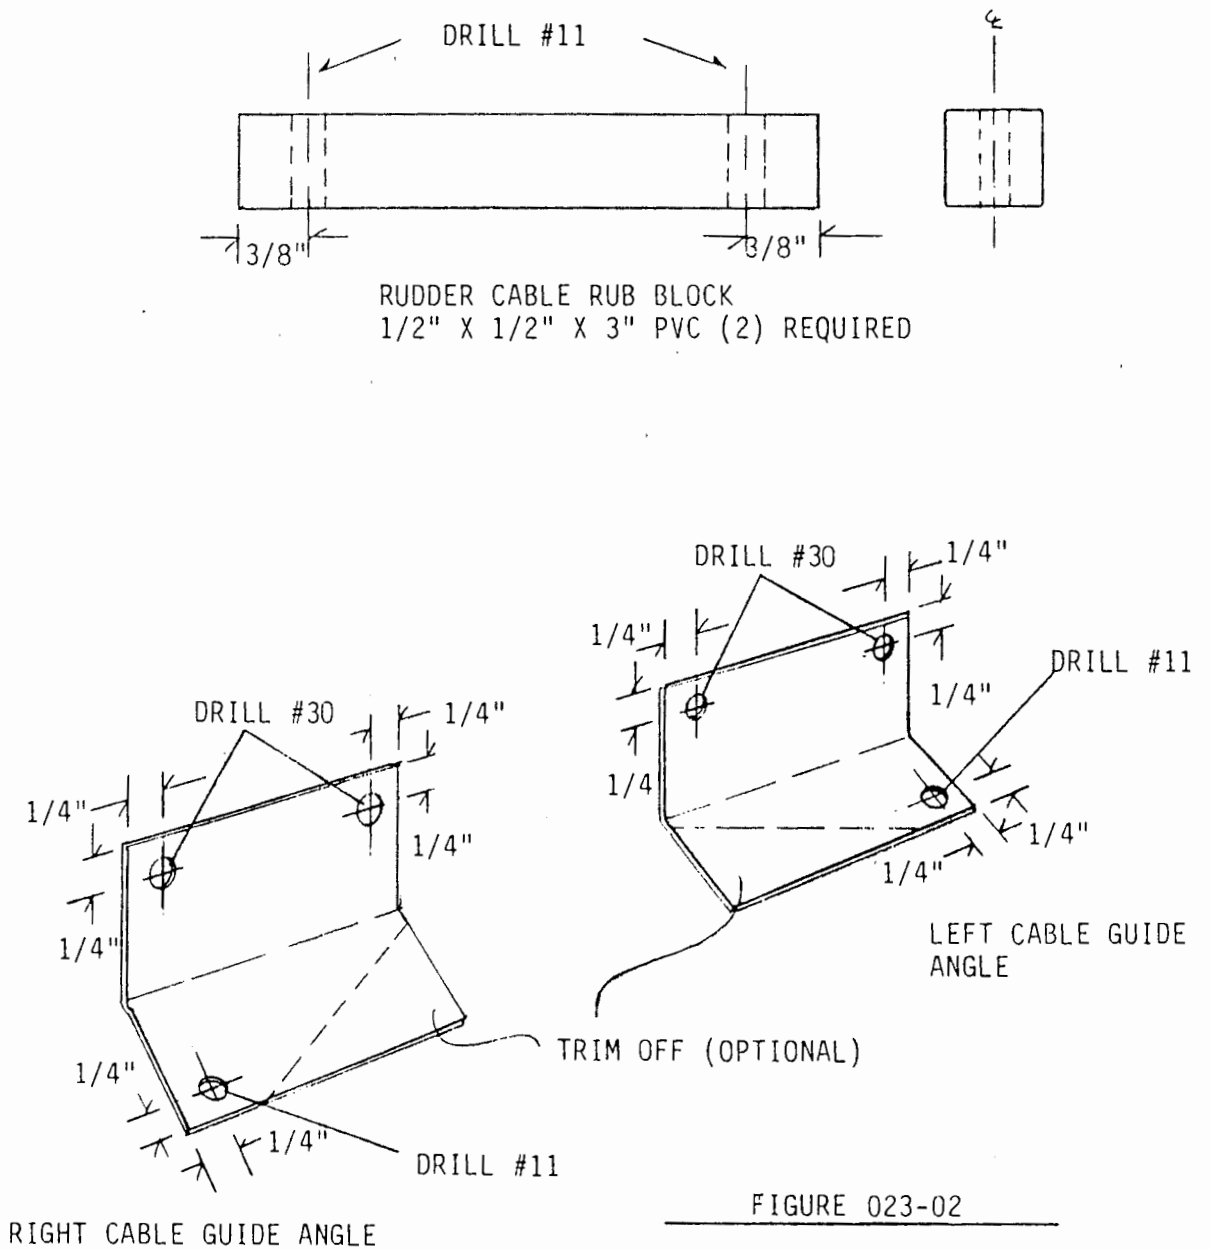

FIGURE 023-02
2. Fabricate (2) rub blocks from the (2) 1/2" x 1/2" x 3" PVC (gray plastic) blocks and drill the rudder guide angles as per Figure 023-02.